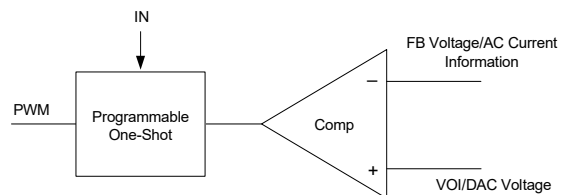

Figure 9. Simplified Control Schematic
The control algorithm of AOZ2231CQI-23 is constant-on-time PWM control with input feed-forward. The simplified control schematic is shown in Figure 9. The high-side switch on-time is determined solely by a one-shot whose pulse width is inversely proportional to input voltage (IN). The one-shot is triggered when the internal VOI/DAC voltage is higher than the combined information of output voltage and the AC current information of inductor, which is processed and obtained through the sensed low-side MOSFET current once it turns-on. The added AC current information can help the stability of constant-on-time control even with pure ceramic output capacitors, which have very low ESR. The AC current information has no DC offset, which does not cause offset with output load change, which is fundamentally different from other V2 constant on-time control schemes.